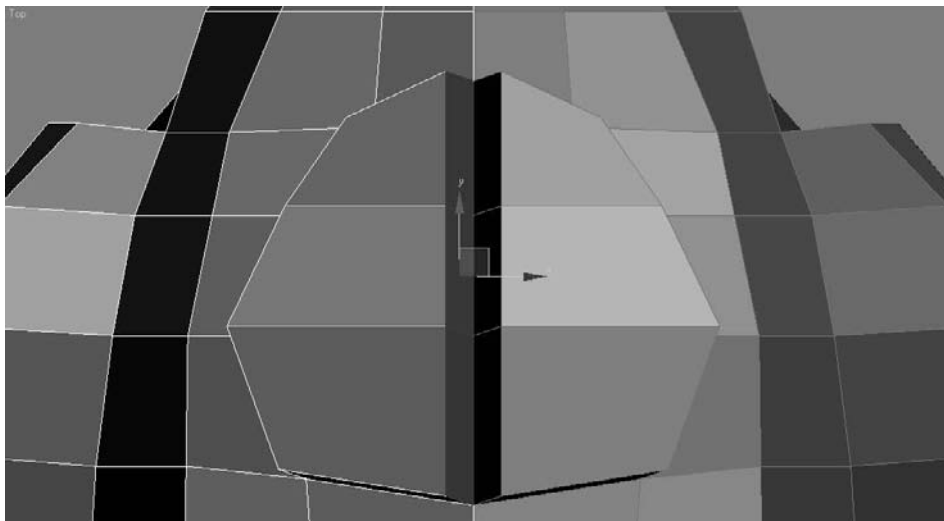

Figure 5.45
10. Select the middle inside polygons, as shown in Figure 5.45, and delete them.